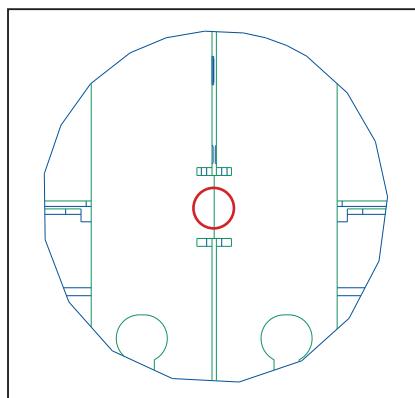

Figure 8: Ensure Alignment Tabs Are Flush & Even
- Ensure the alignment tabs are flush and even with each other. Refer to **Figure 8**. Tighten the stitch bolts to lock the tabs into place.